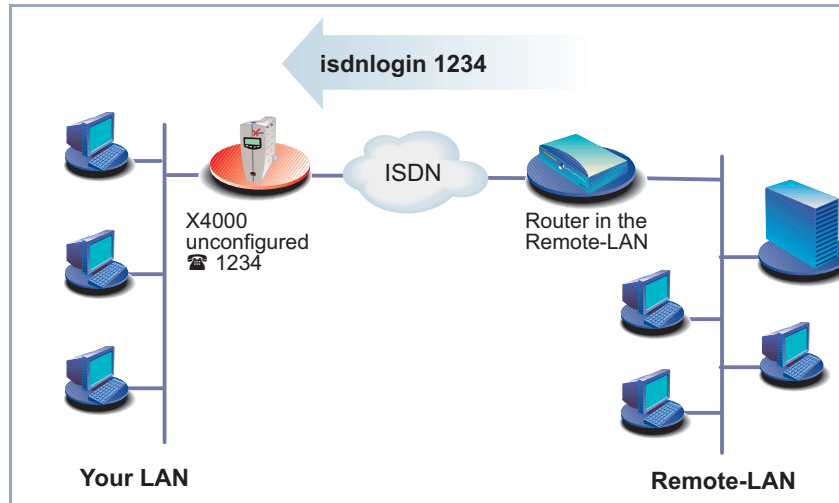

Figure 4-2: Connection over ISDN login for remote maintenance
**Remote configuration** Connection over **ISDN** with **ISDN login** is especially recommended if **X4000** is to be configured or administrated remotely (remote LAN in Figure 4-2, page 74). This is also possible even if **X4000** has not been initially configured, i.e. is still in the ex works state. Connection is then obtained by means of a BinTec router that is already configured or an ISDN card in the remote LAN, using a number of **X4000**'s ISDN connection in your own LAN (e.g. 1234).